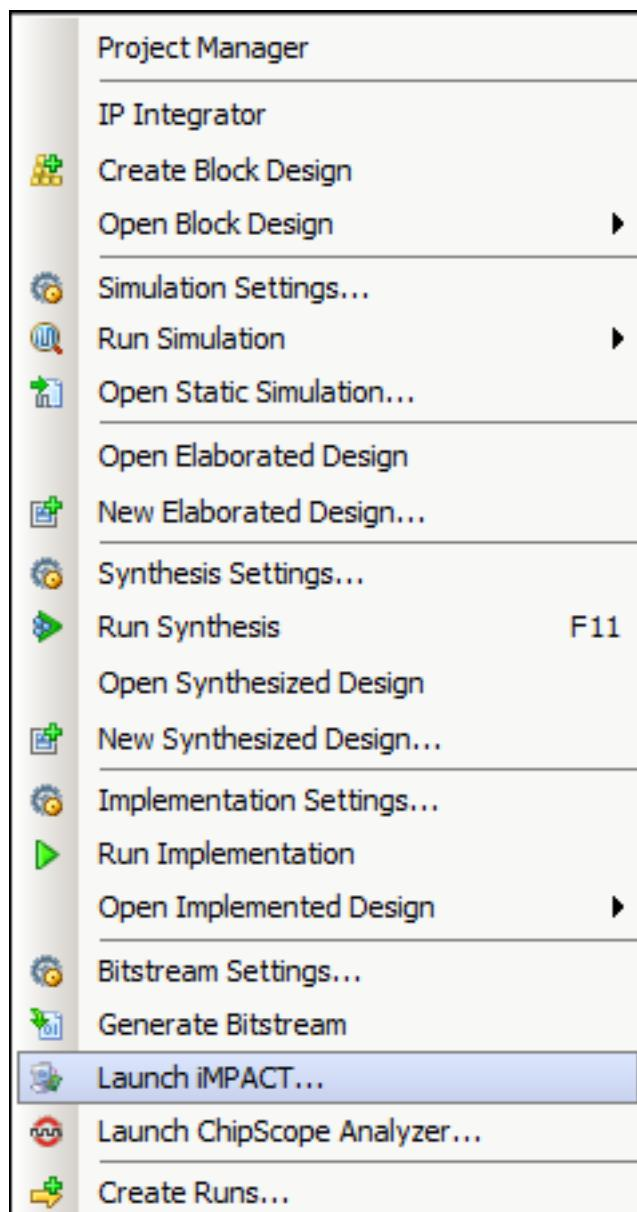
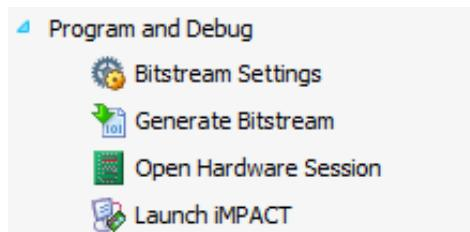

Figure 8: Running iMPACT Using Menu Options
Figure 9: Running iMPACT Using Icons
2. Run iMPACT by selecting **Flow > Launch iMPACT** from the Vivado tools menu bar (Figure 8) or click the icon next to **Program and Debug > Launch iMPACT** (Figure 9).